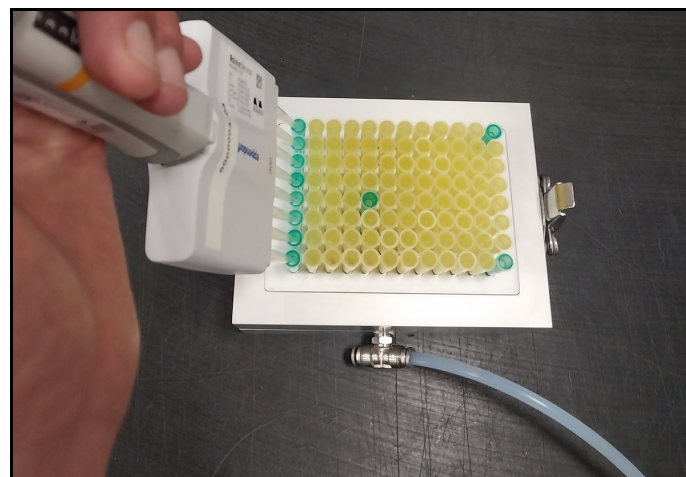

Figure 116
- Once chemistry is chosen, cleavage cocktail can be applied to columns (Figure 116).